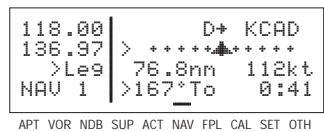

Figure 4-92
7. Press **ENT** again to approve the displayed waypoint page. The screen will change to the NAV 1 page, and the selected waypoint will now be the active Direct To waypoint (figure 4-92).